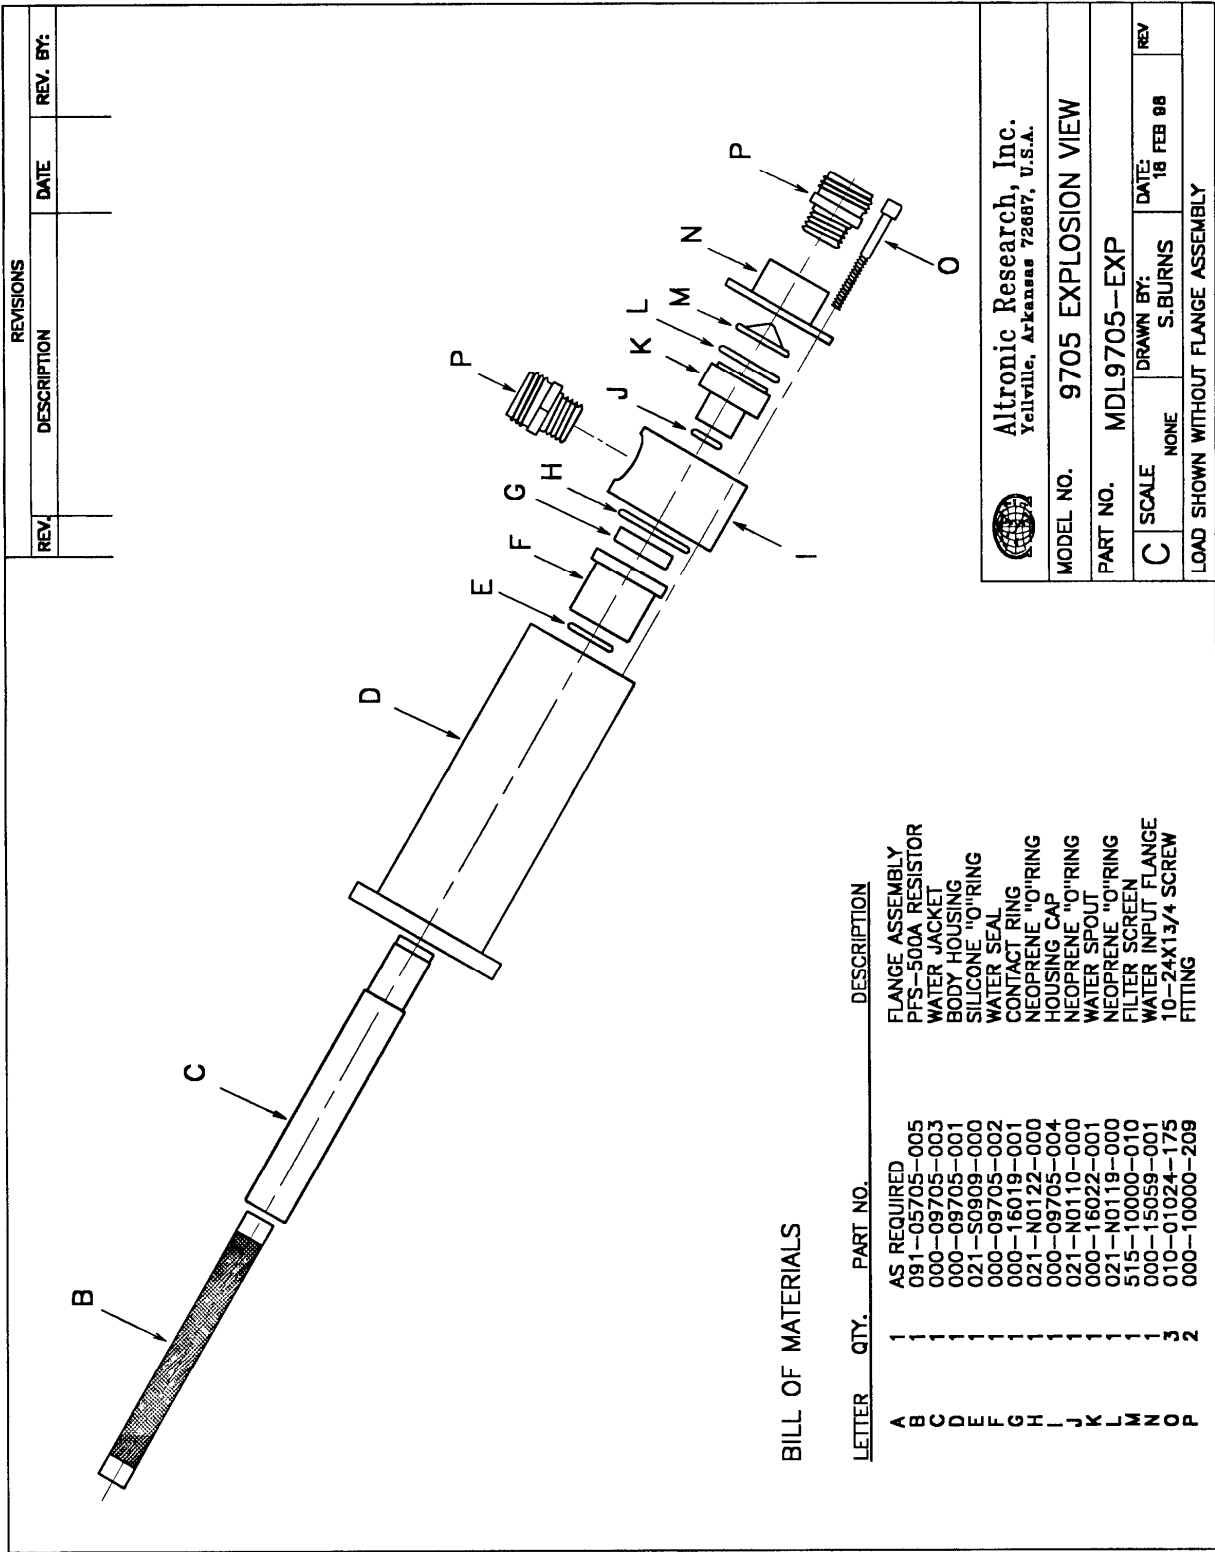

Fig. 14
4. **Resistor Replacement** - (Refer to Fig. 14) To replace the resistor element, remove the three 10-24x1-3/4" cap screws (item O). Remove water input assembly (items M, N, and P). Inspect filter screen for damage, replace if eroded or torn. Remove housing cap assembly (items G, H, I, P, J, K and L). Inspect all O-rings for distortion or damage. Replace if pinched, cut, burned or no longer round in cross section. Inspect ring contact (item G) for signs of arcing or loss of silver in the area of contact with the resistor contact band. Replace if damage is noted. If resistor (item B) is not broken, grasp by the end
- 5. Removal of RF Input** - (Refer to Figure 15) To remove the RF input line adaptor flange, remove four 10-24x 3/8" socket head screws (item 2) that secure the line adaptor flange (item 1) to the load body housing (item 3, Fig. 14). The RF input assembly consisting of the center conductor, anchor insulator and front resistor contact (items C, D, E, F, G, H, I and J) will normally remain in the load body. Grasp the center conductor (item 3) by hand and attempt to pull the input assembly out of the load body using slight side to side motion while pulling. If strong resistance is encountered, it may be necessary to chill the load to allow the anchor insulator to shrink away from the load housing. This can be done by placing the load in a freezer, or packing the load in ice for 20 to 30 minutes. Once the anchor insulator has shrunk away from the load housing, the RF input assembly should be easily removed. At this point of disassembly, all components of the load can be inspected or replaced as needed. Reassembly should be done in the reverse order of sequence. See Figure 16 for individual component identification.